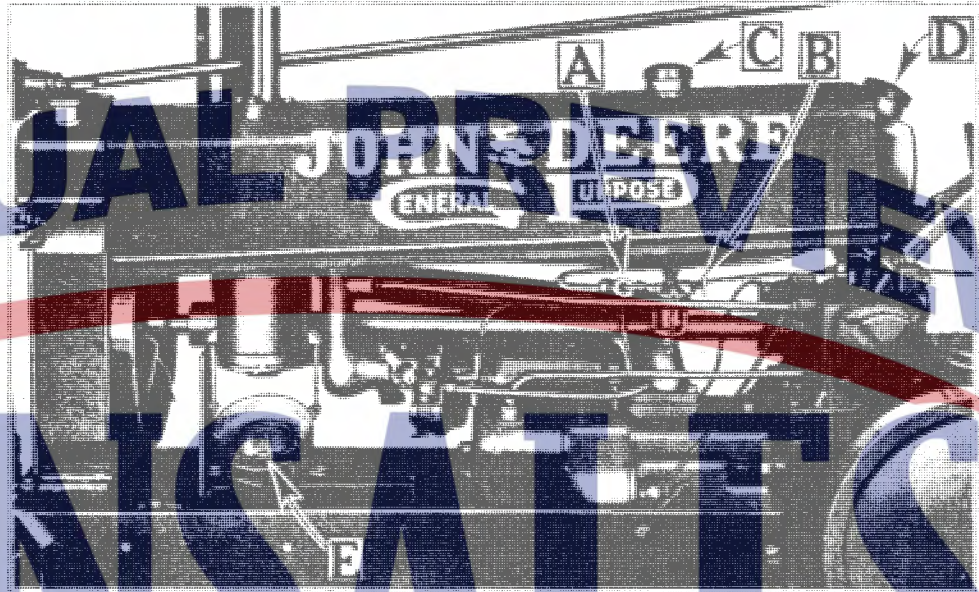

Fig. 1. Fuel System and Air Cleaner.
4. Turn 3-way cock lever down, turning on gasoline. (Fig. 1.)